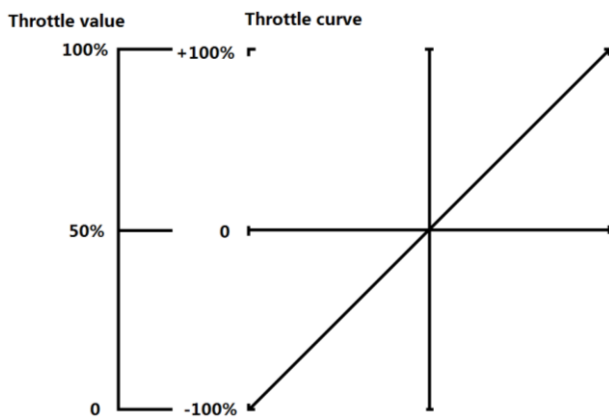

图 1
一般来说，我们的遥控器默认设置的油门曲线与螺距曲线是如图 1，2 所示的：
- In "Helicopter (Store Governor)" mode, connect the ESC to the LCD program box or WIFI Express module when the RPM standardization completes, and then find the record (as shown in Figure 1) as per the instruction about the " data checking" process.